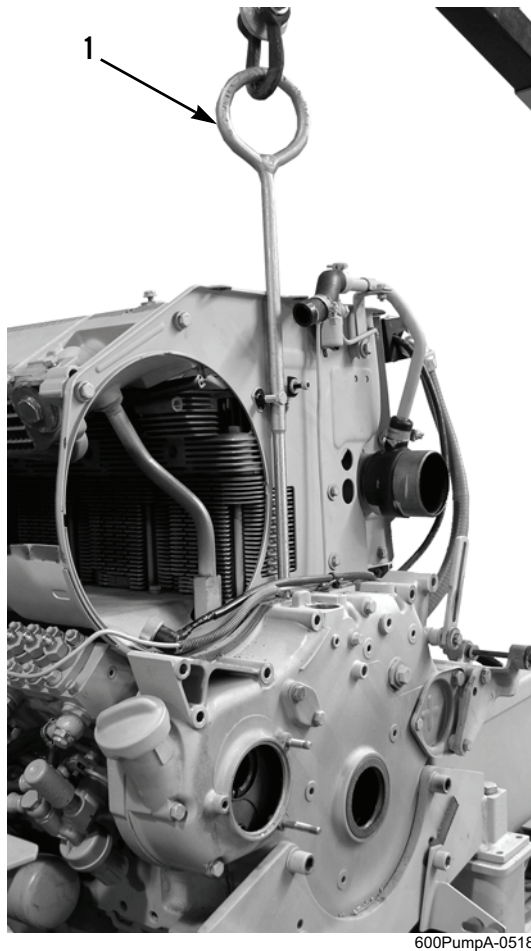

Figure 1. Supporting Front of Engine.
1. Install lifting eyebolt (Figure 1, Item 1) to front of engine. Connect lifting chains to lifting eyebolt and lift until all slack is removed from lifting chains and front of engine is supported.